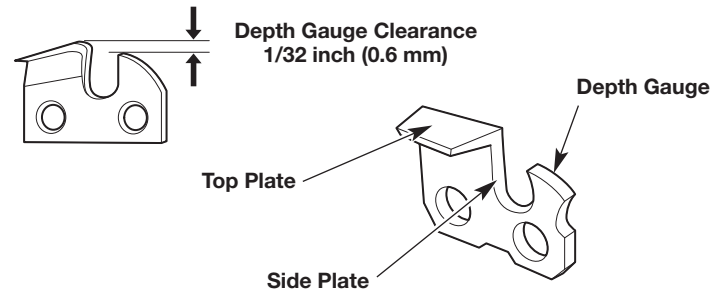

Fig. 31
- Keep the file level with the top plate of the cutter (Fig. 31). Do not let the file dip or rock. Use light, but firm pressure.